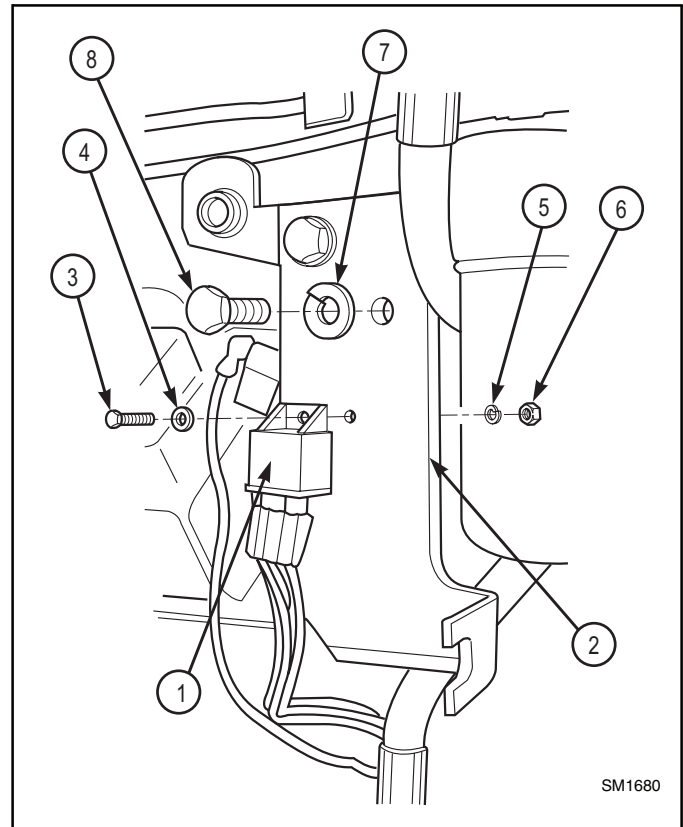

Figure 17
- (From the kit) position the relay # 8225114 (1) on the throttle plate # 6617802 (2) and secure with screw # 8310016 (3) washer # 8307111 (4) lockwasher # 8307003 (5) and nut # 8305002 (6). (Figure 17).
- Position throttle plate (2) on new engine block and (From the kit) install with two lockwashers # 8307025 (7) and screws # 8310304 (8). (Figure 17).